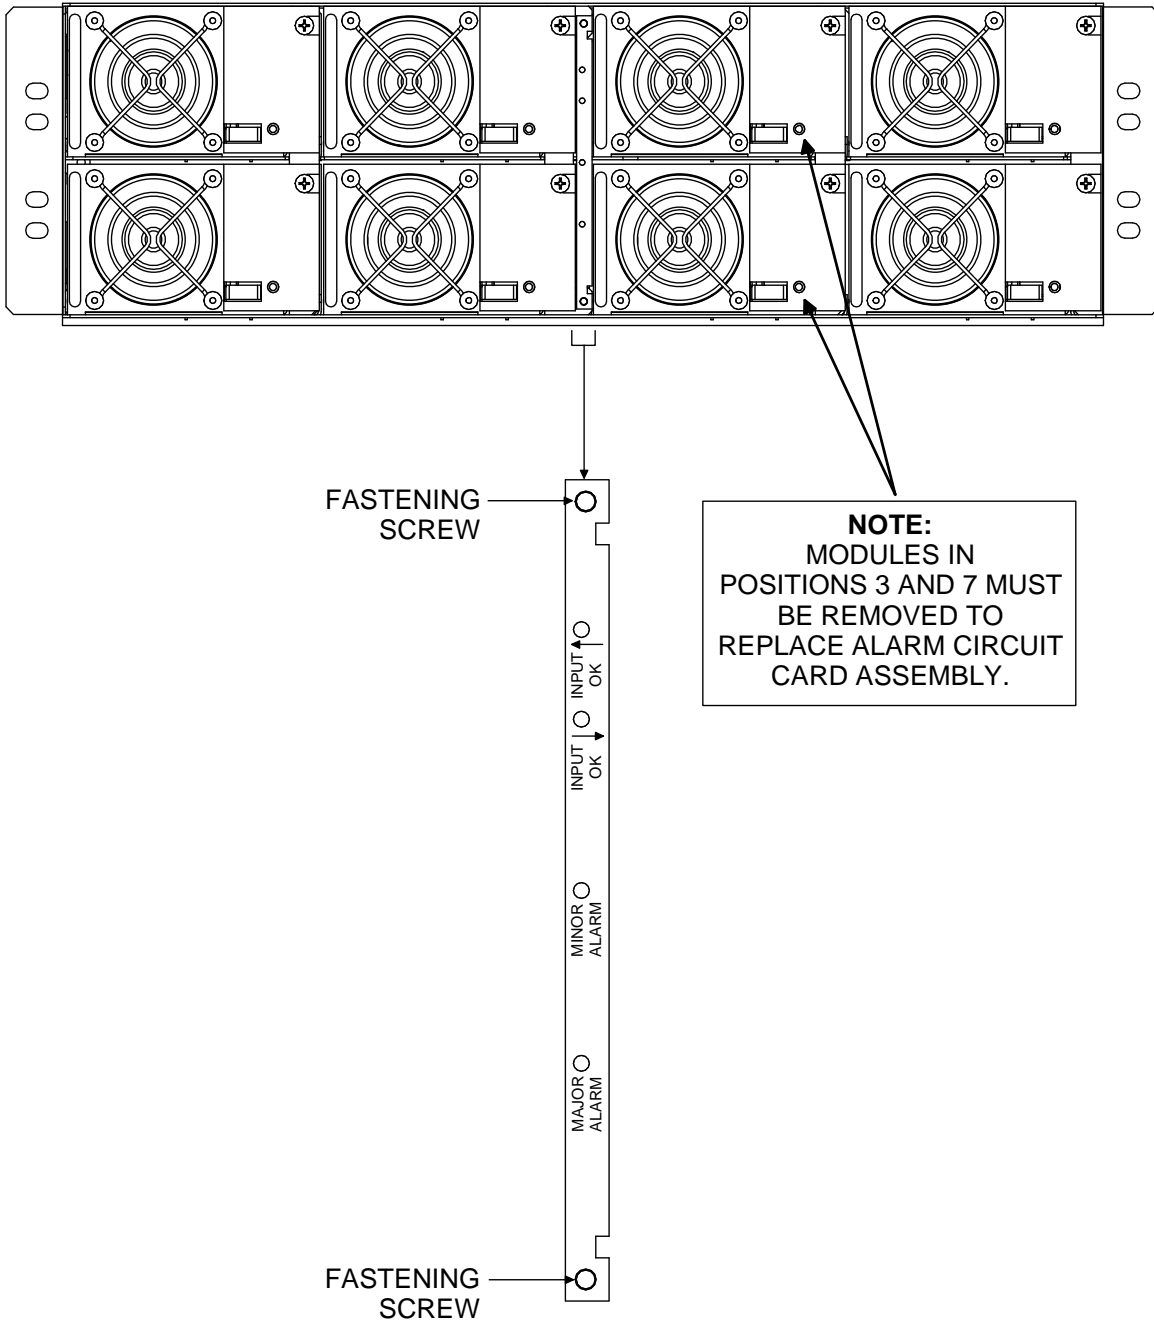

Figure 8-2
Refer to Figures 8-2 and 8-3 as this procedure is performed.
- 1) Remove the Converter Modules or Blank Modules, whichever are present, from Mounting Positions 3 and 7. Refer to Figure 8-2. To remove a Converter Module:
- 2) Remove two screws that secure the alarm circuit card assembly to the converter shelf. Refer to Figure 8-2.